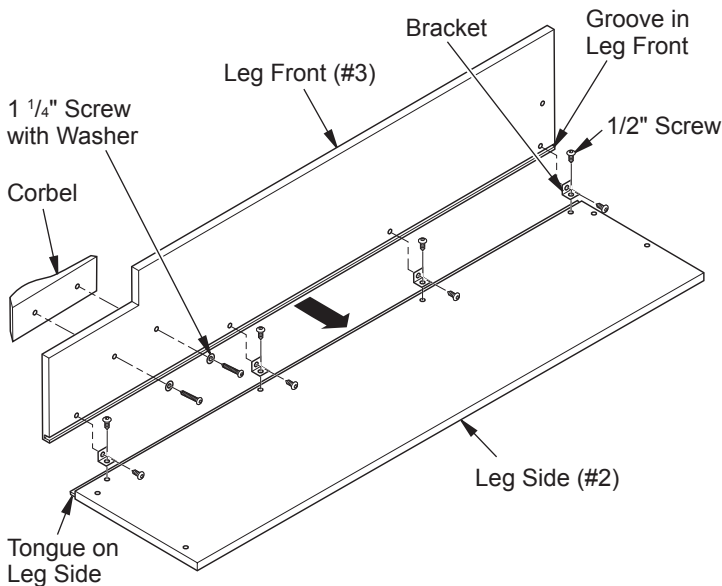

Figure 1 - Leg Assemblies (right side shown)
2. From back sides of leg fronts, attach corbels using two 1 1/4" screws and washers. See Figure 1, page 2.
1. Lay right side panel (#2) face down on a soft surface to avoid marking finish. Attach four brackets with 1/2" screws to right side panel (#2) leaving screws slightly loose. Face brackets out toward tongued side (see Figure 1). Place right front leg over right side (#2) matching groove in leg to tongue on side, as shown in Figure 1. Align threaded holes with brackets on side. Start four 1/2" screws through brackets. Align bottom of side and leg assembly so they are flush with each other. Hold these pieces securely while tightening (but not over tightening) screws.